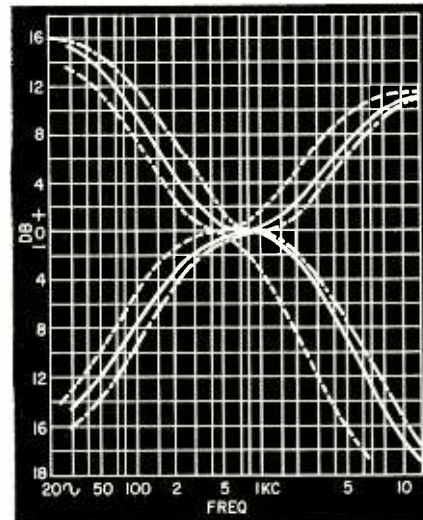

Fig. 2
1.5-megohm resistor. The curves in Fig. 2 show the response and crossover points of the bass and treble controls for various values of C1, C2 and C3.
transistorized fork driver. Fig. 2 shows the parts layout. The transistor type is not critical. You can use almost any audio type with a current gain of 40 or more.